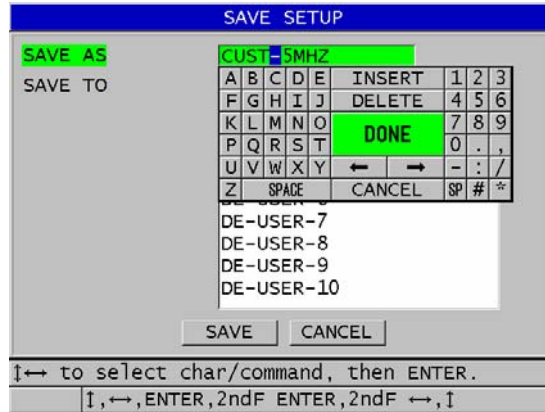

Figure 12-6 Saving the setup
- b) In the **SAVE SETUP** screen, enter the desired custom setup file name (see Figure 12-6 on page 220).